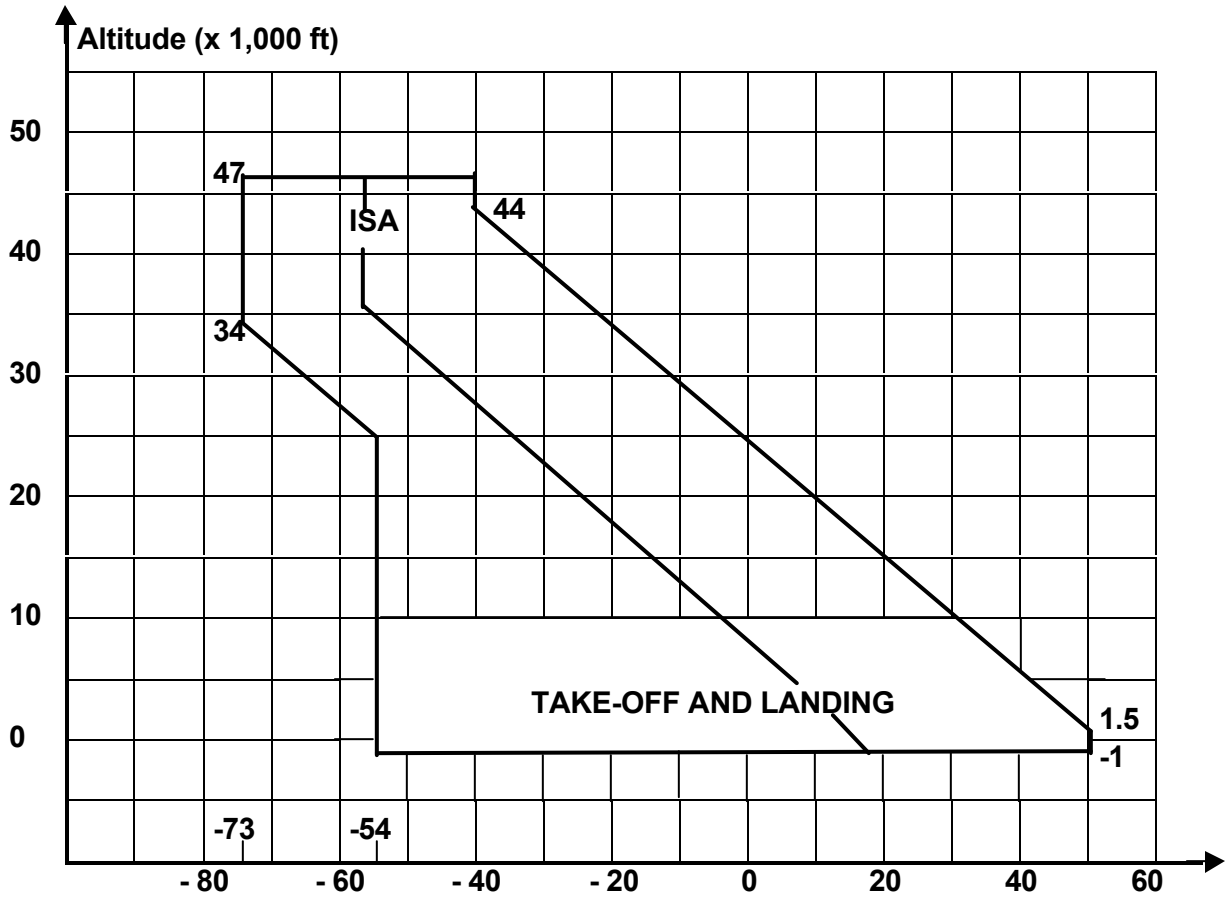

FIGURE 01-05-20-00: STATIC AIR TEMPERATURE (°C)
- Ambient temperature See figure 01-05-20-00 above